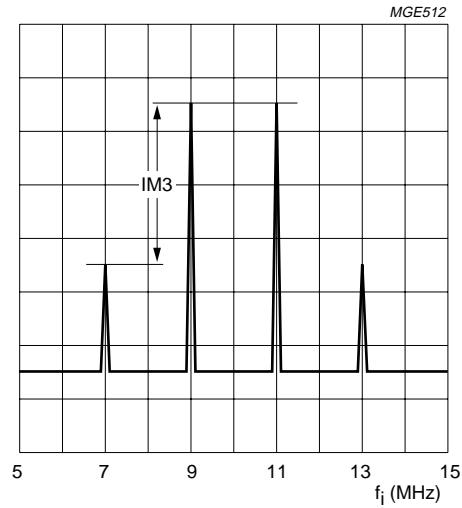

Fig.3 IM3 definition.
7. The specified intermodulation distortion is the minimum value obtained from intermodulation measurements in the I and Q channels. Intermodulation is measured with two sine wave signals at $f_{i(\text{RF})} = 79 \text{ MHz}$ and $f_{i(\text{RF})} = 81 \text{ MHz}$ with an amplitude of 67 dB μ V for each tone. The difference in level between the converted carriers (9 MHz and 11 MHz) and the intermodulation products after frequency conversion (7 MHz and 13 MHz) is defined as IM3 (see Fig.3).